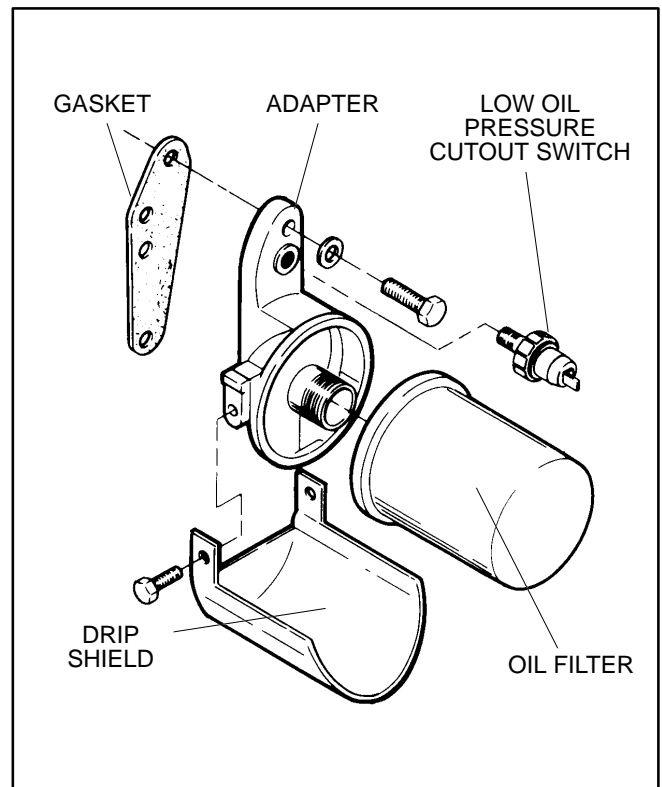

FIGURE 6-8. OIL FILTER AND PRESSURE SWITCH
3. Loosen the two capscrews that secure the adapter to the engine block and remove the adapter and gasket. The low oil pressure cutoff switch is installed in a threaded hole in the filter adapter. See Figure 6-8.